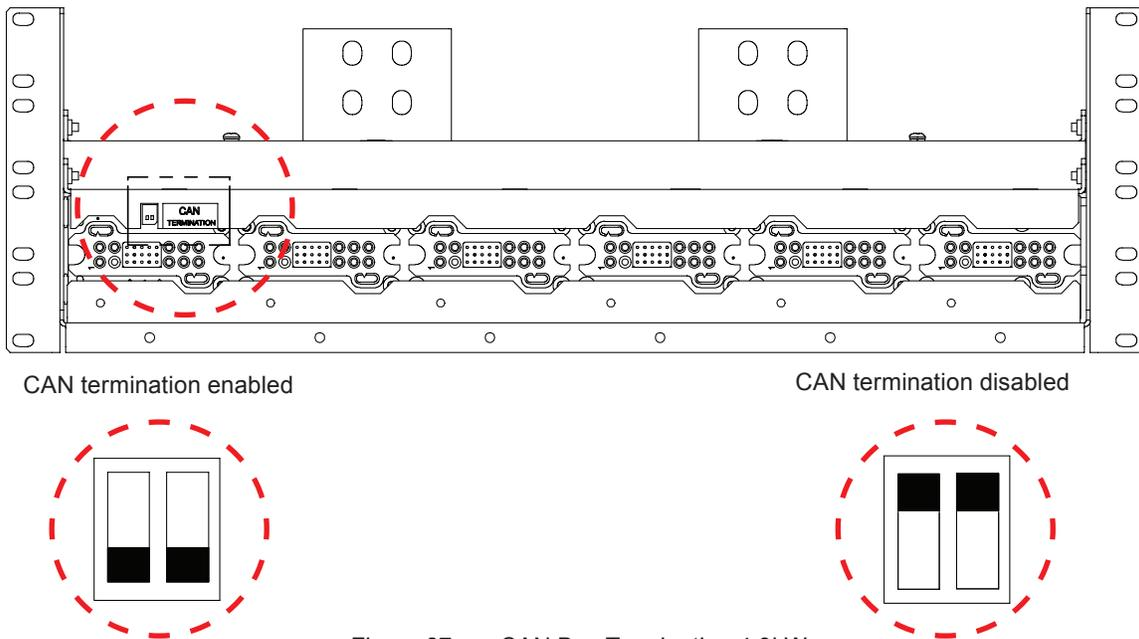

Figure 37 — CAN Bus Termination 4.0kW
- b. Flip the DIP switches from Termination Enabled to Termination Disabled—see Figure 37.